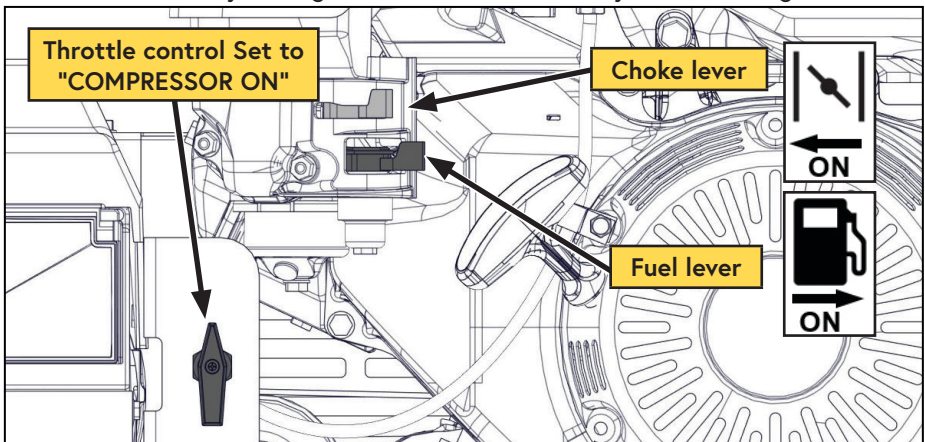

Figure 15 — Fuel and choke levers
- 1) Close the choke by moving the choke lever all the way to the left (Figure 15).
4) Turn on the fuel by moving the fuel shut off lever all the way to the right (Figure 15).